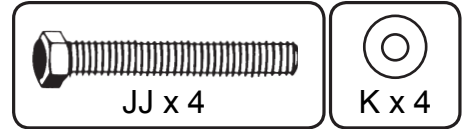

Fig. 3
3. Lay Top Assembly (Ac) face down on a clean protected surface. Place leg assembly top down with each leg between the aprons so that the hole in the corner of the leg is facing the Leg Bracket (Ic). See Figure 3. Insert a 3/8" x 2 1/2" Hex Bolt (JJ) with a Washer (K) through the leg bracket into the Insert Nut in the leg and fasten securely. See Figure 3a.